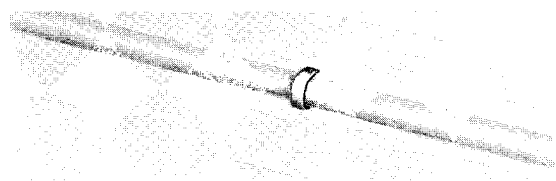

Fig. 3 — Staple
3.04 *Staples* used for fastening jacketed wire do not have rust- and corrosion-resistant properties and are not to be used outside (see Fig. 3 and Table C).